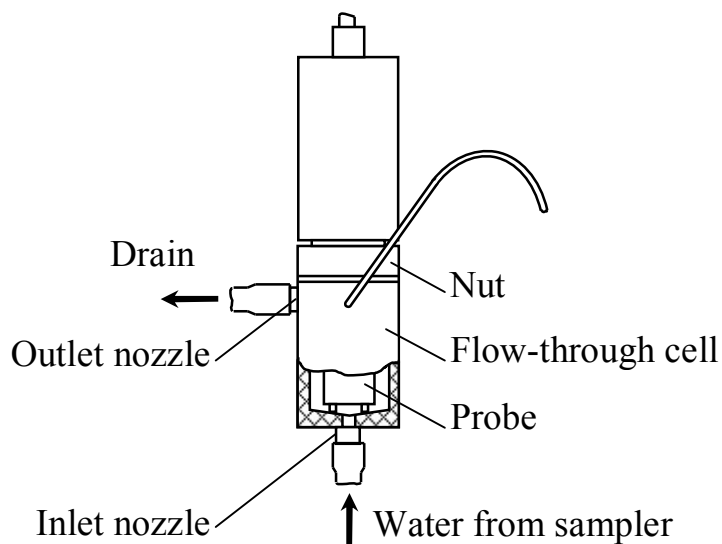

Fig. 2.18 – Position of the probe in the flow-through cell in measurements
- push the probe into the flow-through cell according to Fig. 2.18 as deep as it goes;